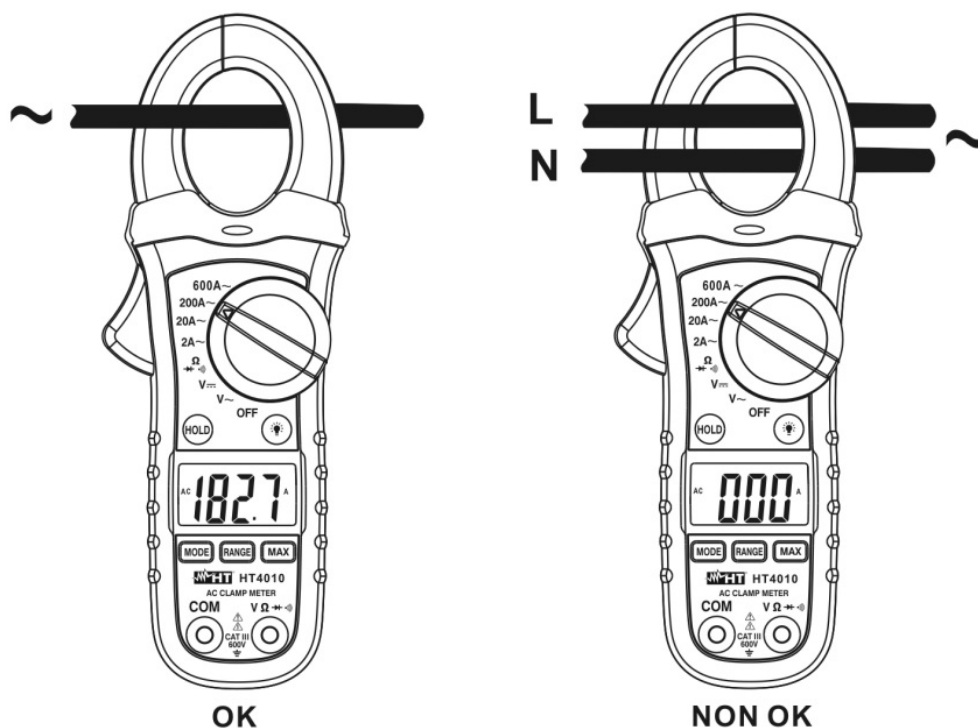

Fig. 4: Taking AC current measurement
2. Put the conductor to be tested inside to the clamp jaw (see Fig. 4), then the current value is shown at display